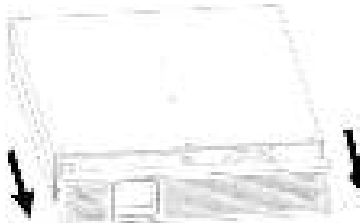

Figure 21: Removing the front panel
1. Remove the front panel (see Figure 21). To do this, pull the frontpanel to the front side of the UPS system.